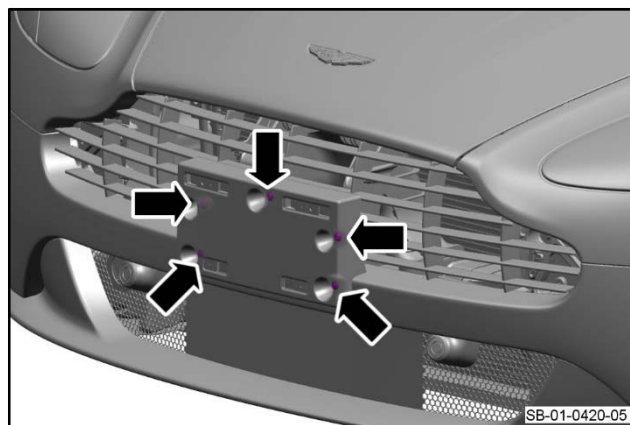

Figure 5
5. Install the five screws that attach the license plate plinth to the bolster plate (refer to Figure 5).